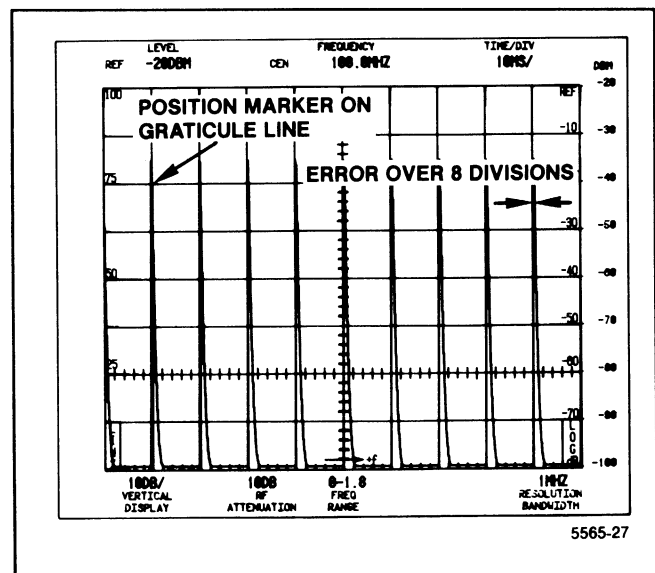

Figure 4-9. Typical display for measuring Time/Div accuracy.
c. Use the horizontal POSITION control to align a marker on the 1st graticule line (see Figure 4-9), then check the displacement of markers from their respective positions over the center eight divisions. Individual marker displacement must not exceed 5% or 2 minor divisions.